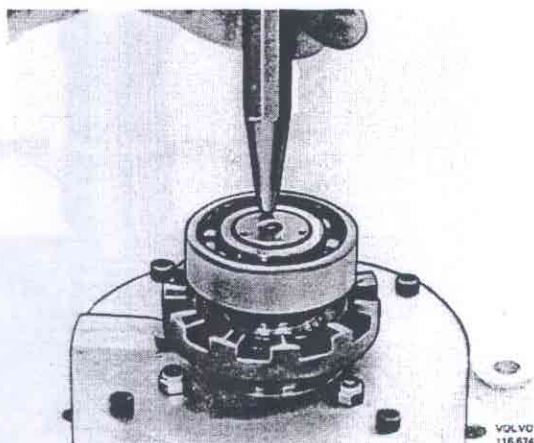

Fig. 48-27. Penning the bearing
10. Press on the support bearing and peen it with three punch pops, see Fig. 48-27.